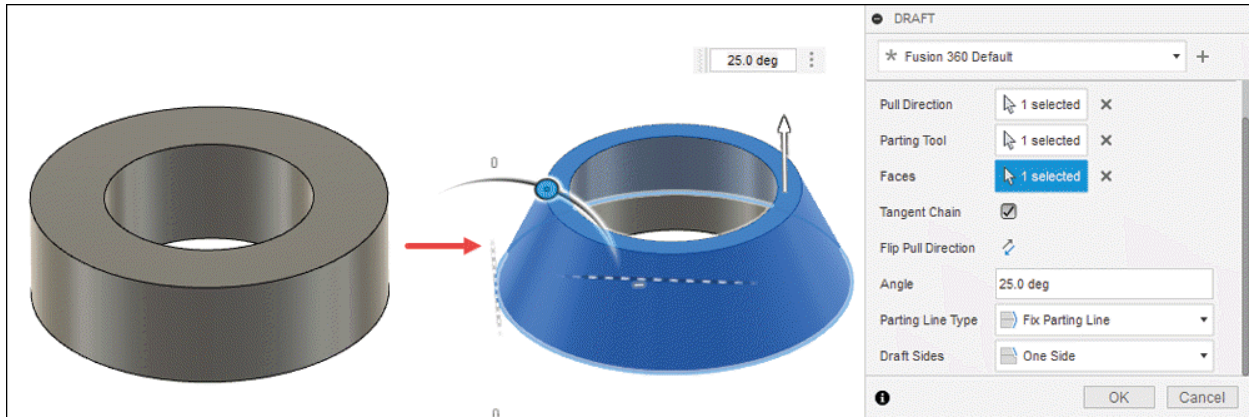

Figure-32. Preview of parting line draft type
- Specify desired value of angle for draft in the **Angle** edit box. The preview of parting line draft type will be displayed; refer to Figure-32.